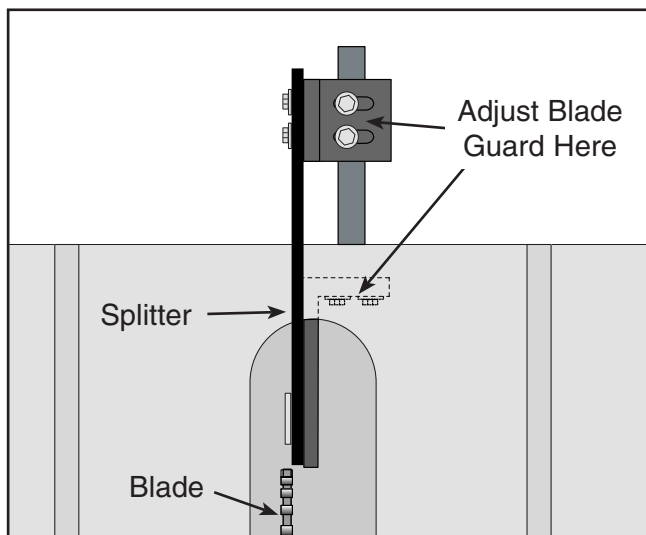
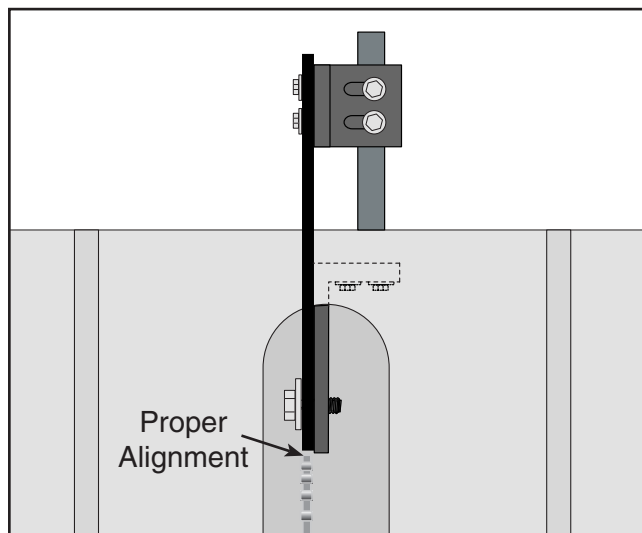

Figure 29. Incorrect blade guard alignment.
Figure 30. Correct blade guard alignment.
- If the blade guard is not aligned correctly behind the blade (**Figure 29**), adjust the blade guard mounting bracket and the front blade guard support so they align correctly (**Figure 30**).